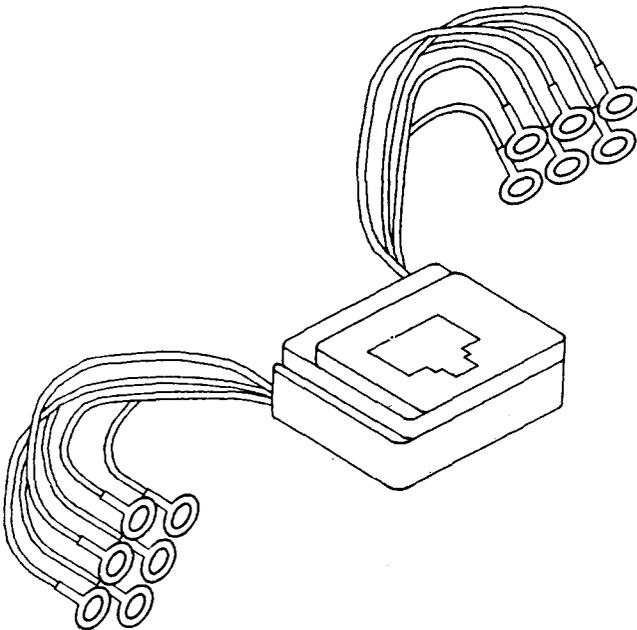

Fig. 1—651A or B Jack
2.01 **651A and B:** The 651A and B jacks (Fig. 1) each consists of a modular-type frame, a 12-lead block spring assembly, and a clear plexiglass cover. These jacks will accept the D8W-type cord and provide a bridged connection when used with a 4-position D4BU type-cord or 6-position D6AP-type cord.